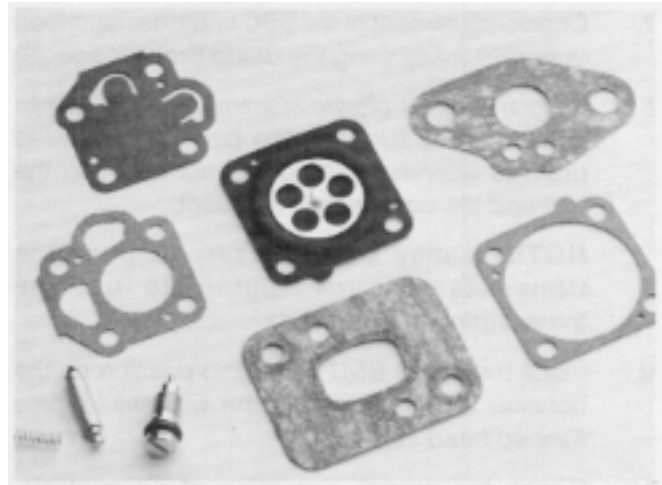

Figure 93
2. Remove the 2 flanged nylon locknuts securing the blade to the bearing block and remove the anti-scalp cup, the blade, the blade spacer, and the lower BBC screen. See Figure 93.